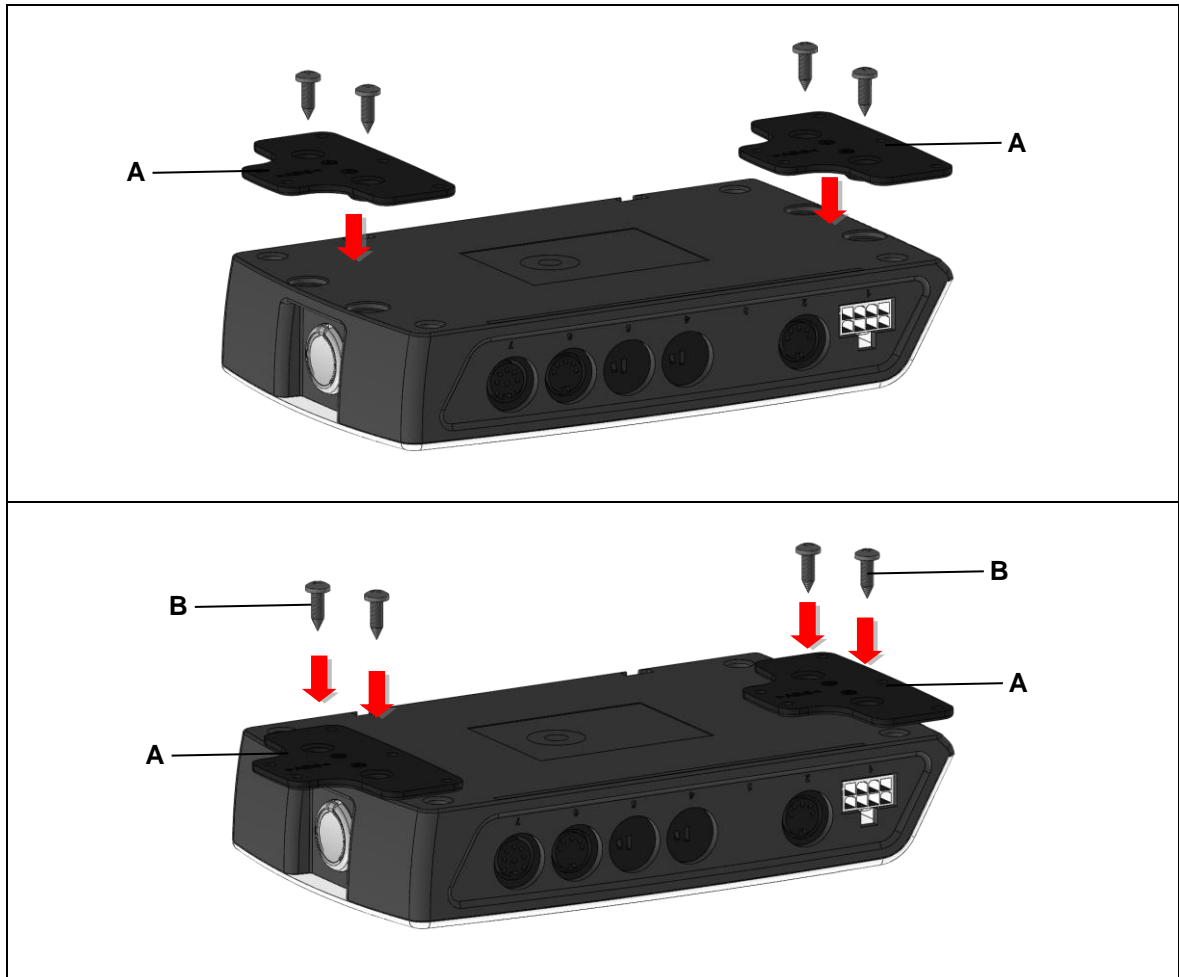

Figure 6 Installation the mounting plates
- 1 Screw the mounting plates firmly onto the HE150 (as shown in Figure 6). Use at least two screws for each of the two mounting plates.